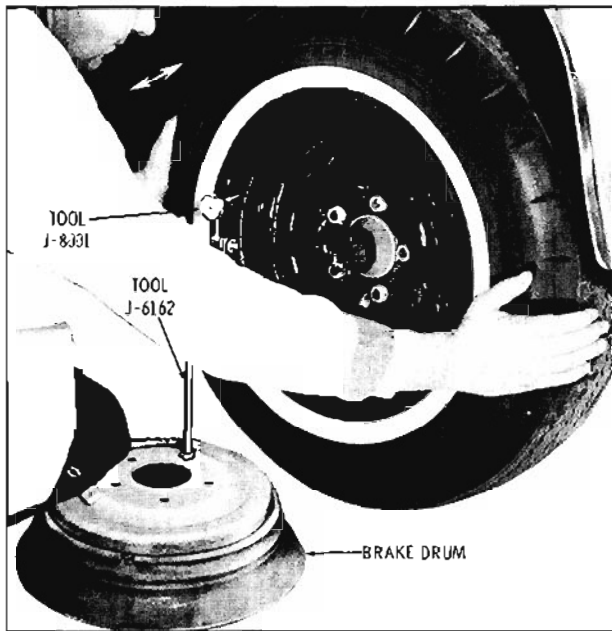

Fig. 8-3 Suspension and Linkage Check
2. Position dial indicator as shown in Fig. 8-3.
3. Grasp front wheel as shown in Fig. 8-3. With wheels in straight ahead position, move wheel back and forth without moving steering wheel. Gauge reading should not exceed .180".